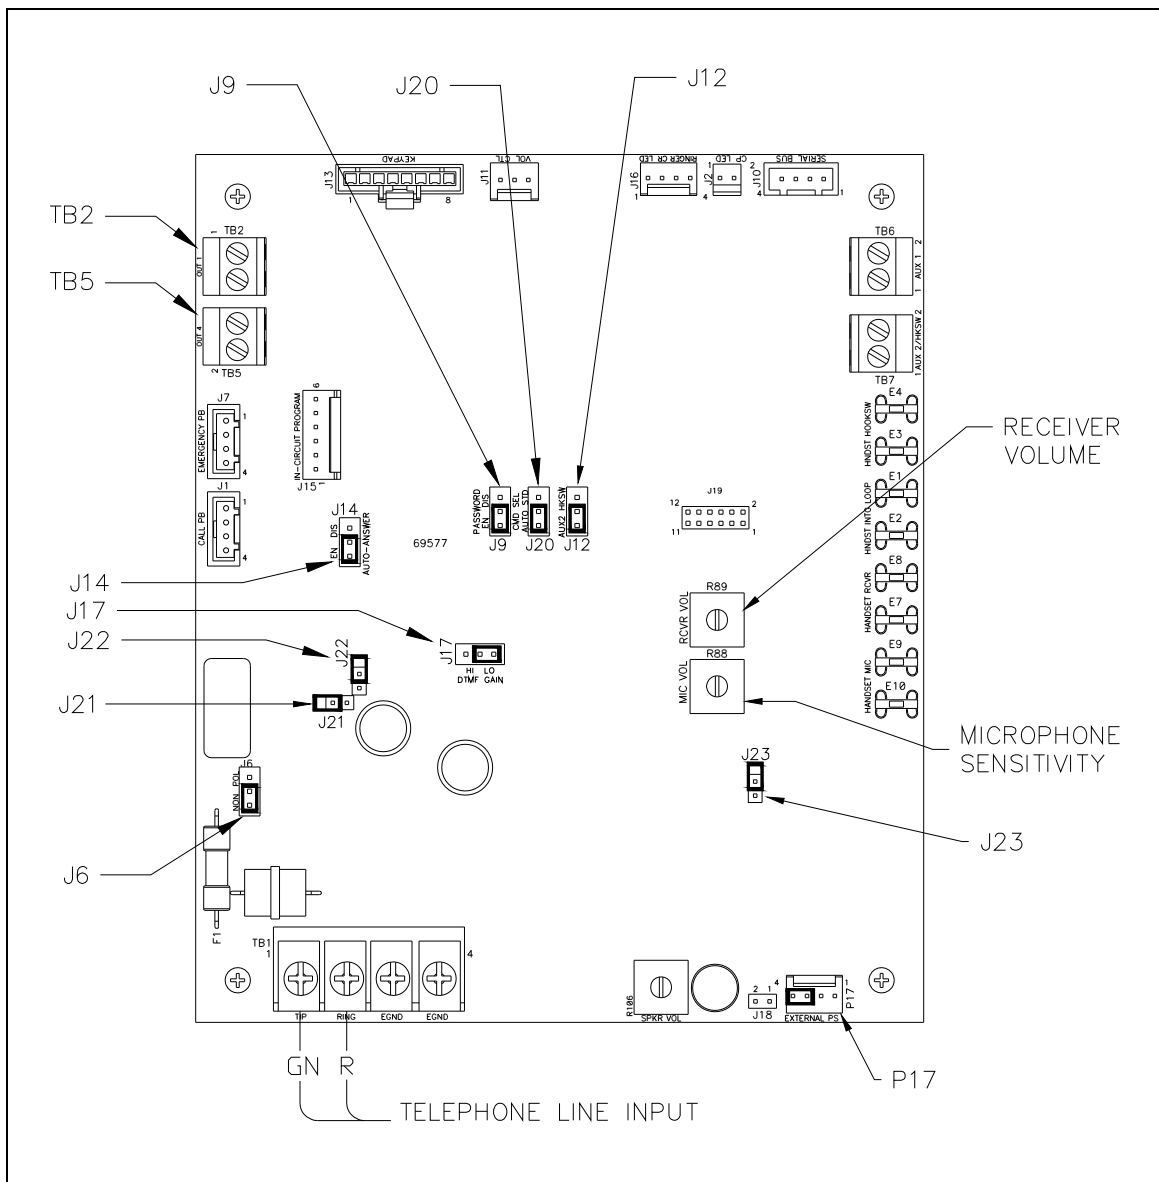

Figure 7. Main PCBA
2. Connect the incoming subscriber line or the telephone line suppressor (if applicable) to TB1 on the Main PCBA. See Figure 7.
The PCBA hardware configuration options are explained in detail in the following sections and the necessary jumper settings are identified to enable or disable each option. We recommend reading the following sections, recording the desired parameters, and then making the necessary changes. We also recommend that you make a record of your settings. The following options are controlled by specific hardware configurations. See Figure 7 on page 8 for the jumper locations.
Each telephone includes two isolated solid state switches capable of switching a maximum of 48 V dc, 125 mA or 28 VRMS ac, 80 mARMS. TB2 (OUT1) and TB5 (OUT4) on the Main PCBA provide the connections for the auxiliary outputs. Refer to Figure 7 for the location of TB2 and TB5.
Output 1 connects to TB2 on the Main PCBA. Refer to Figure 7. This output activates at the start of an incoming call and will extinguish when the handset is lifted from its cradle (call answered). This output will activate with a cadence of 2 seconds ON followed by 4 seconds OFF during this time interval.
To connect the power, remove the jumper from header P17 pins 3 and 4 and plug it into the adjacent J18 header. Refer to Figure 7 for connector locations.